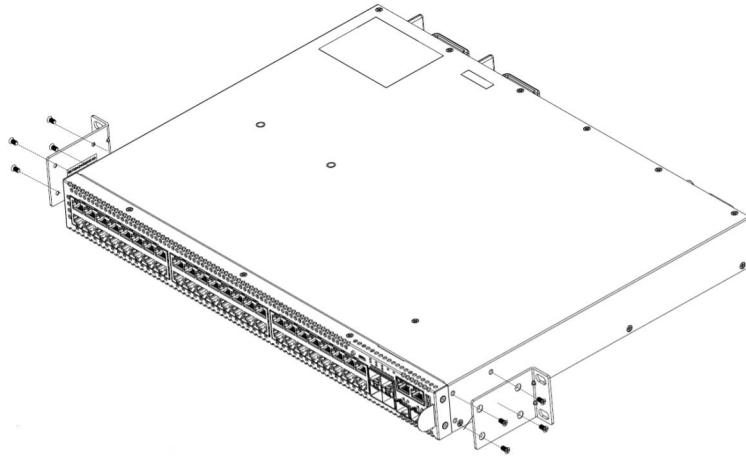

Figure 44: Mid-Mount: Attaching Short Mounting Brackets
- Figure 44 shows a mid-mount configuration using a short mounting bracket.